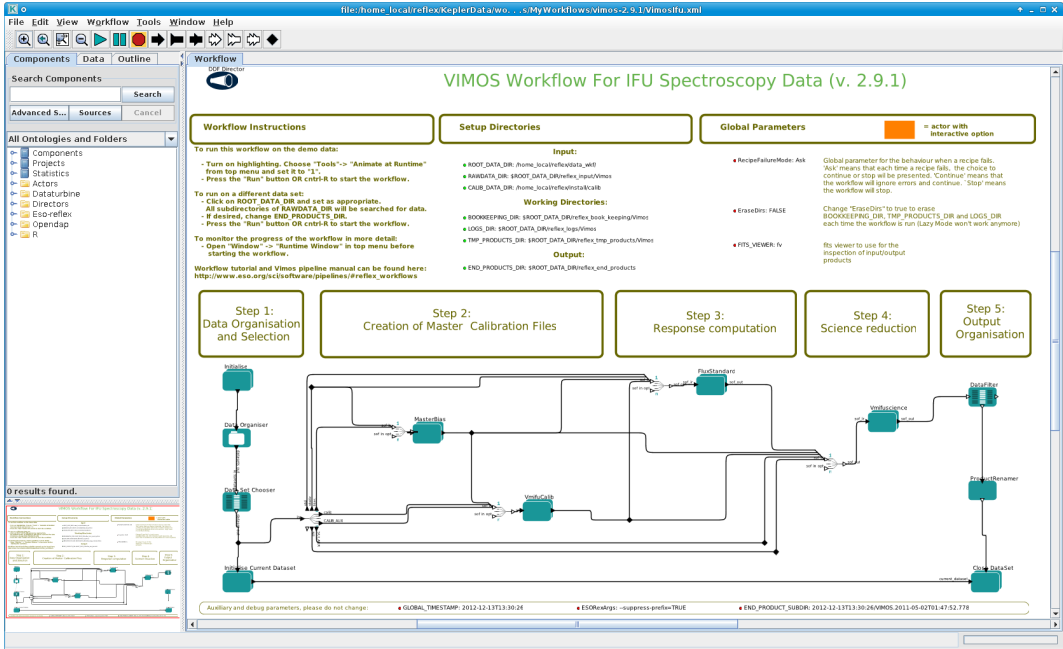

Figure 4.2: VIMOS/IFU workflow general layout.
2. Now open the VIMOS workflow by clicking on File -> Open File, selecting first vimos-3.0.1 and then the file VimosIfu.xml in the file browser. You will be presented with the workflow canvas shown in Figure 4.2. Note that the workflow will appear as a canvas in a new window.